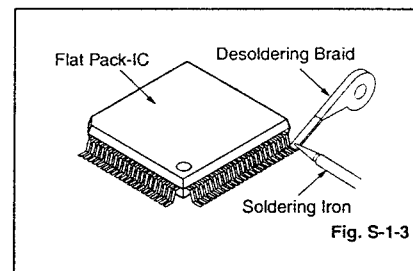

Fig. S-1-3
- Using desoldering braid, remove the solder from all pins of the Flat Pack - IC. When you use solder flux which is applied to all pins of the Flat Pack - IC, you can remove it easily. (Fig. S-1-3)